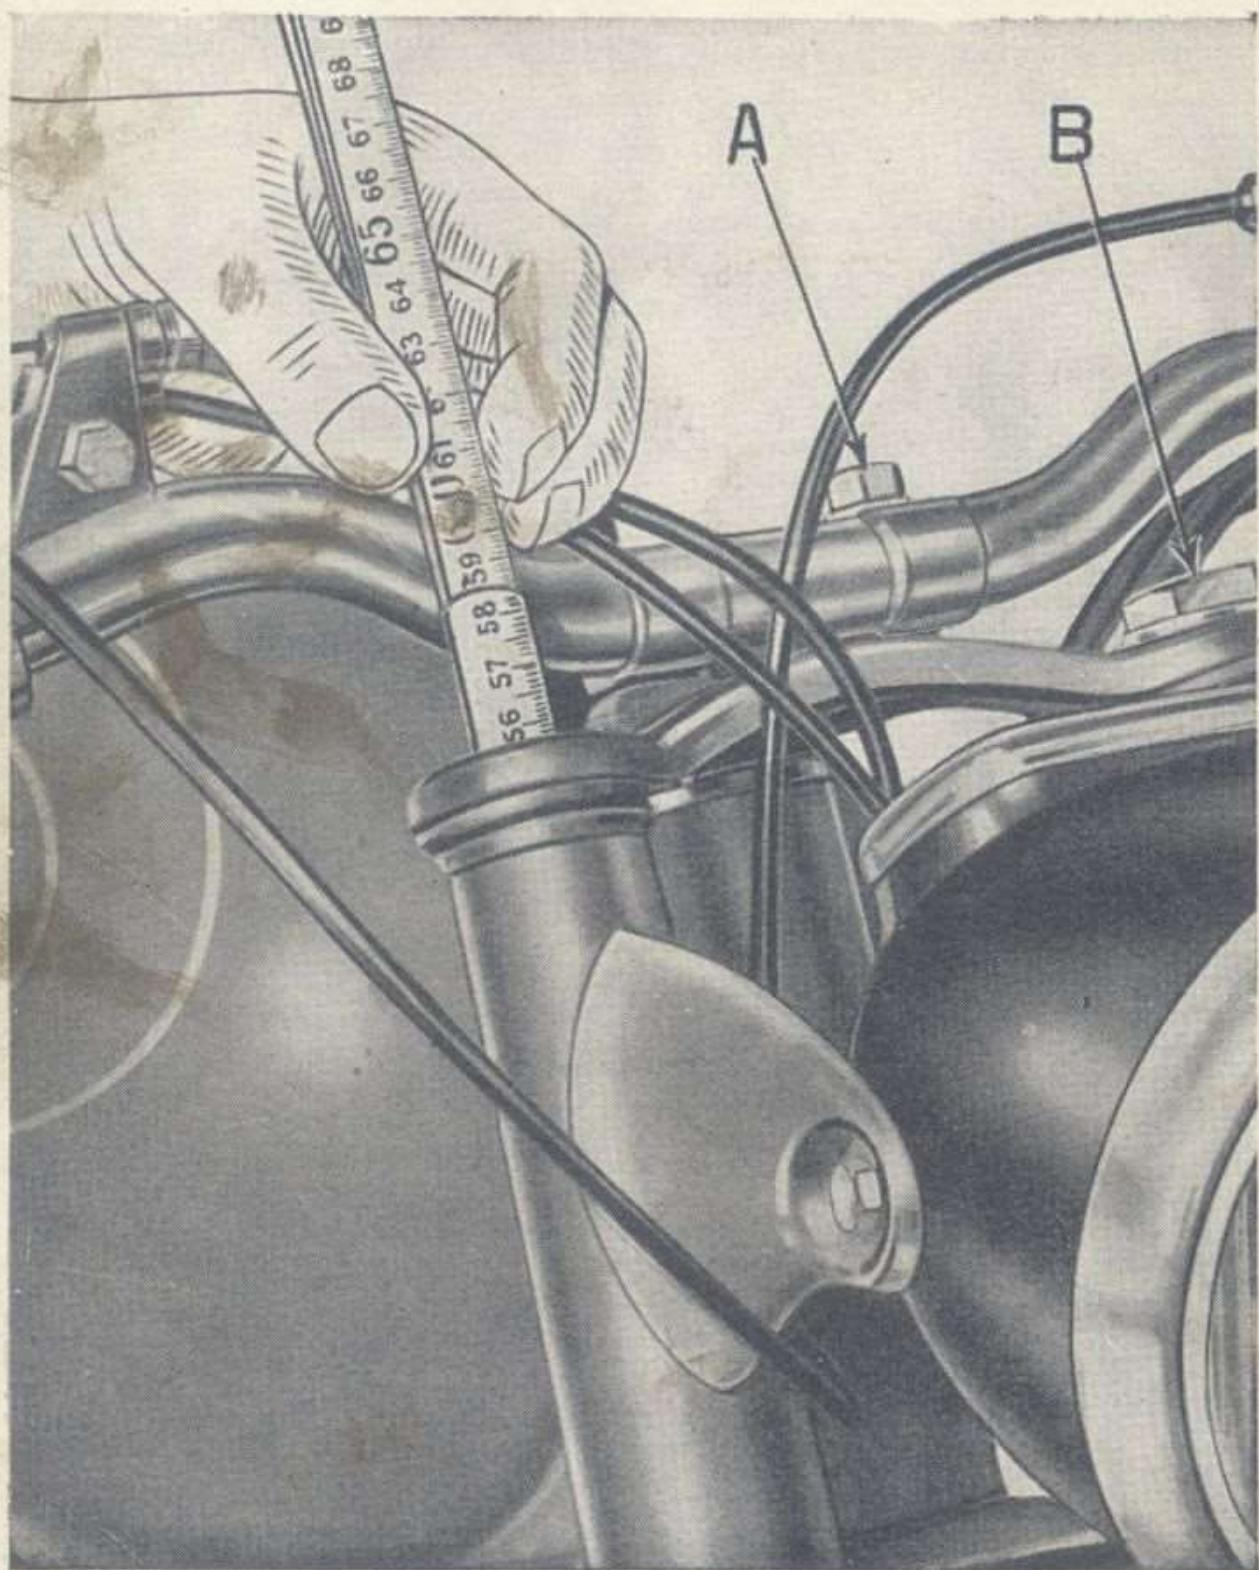

Fig. 7
(see fig. 7)
- loosen the handlebar securing bolts (A) and turn the handlebar just enough to allow the removal of both fork caps (B);
- Check the oil level by means of a steel ruler introduced into the fork tube down to its full length (55,5 cm. - 21 7/8''), as shown in fig. 7.